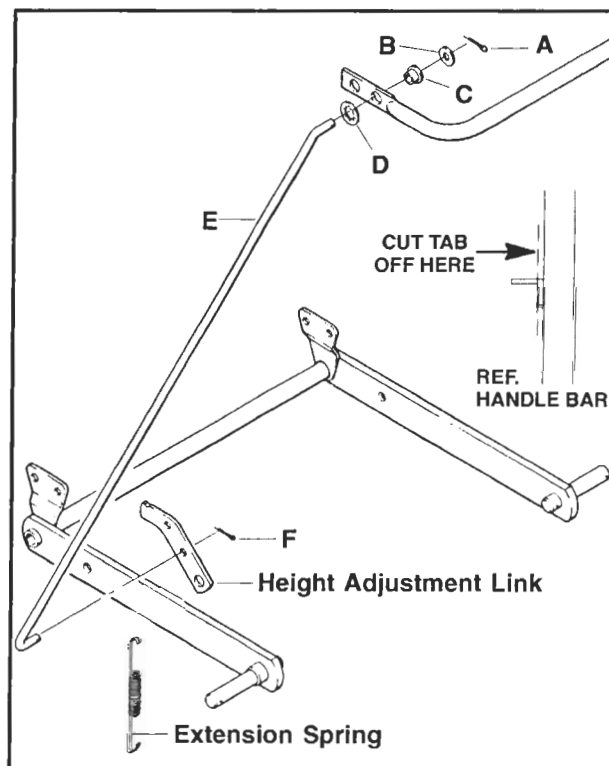

FIGURE 1
2. Remove and retain extension spring from height adjustment link (refer to Figure 1). This will relieve the pressure on the control arm and allow it to be removed easily.
3. Remove parts A thru F as shown in figure 1.
4. Older models will have a tab welded on half way down the handle bar where the old control rod was supported. To install the new control rod, this tab must be cut off as shown in figure 1.